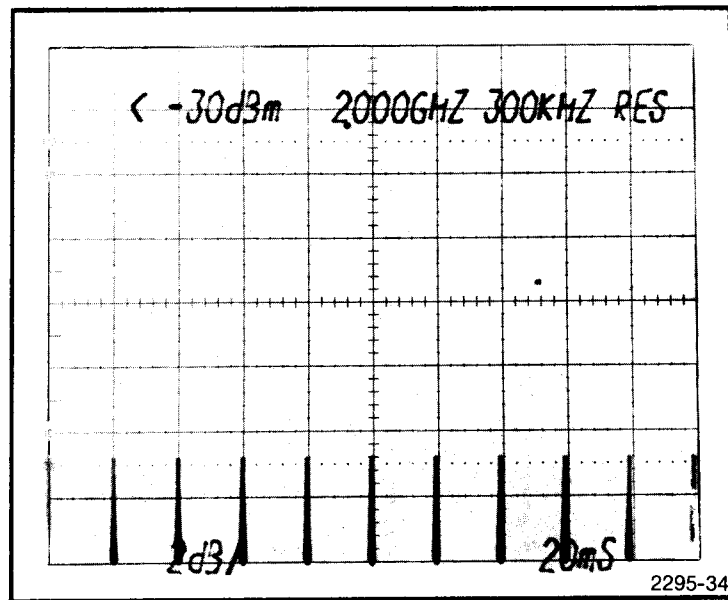

Fig. 4-26. Time Marks Displayed for Calibrating Sweep Timing.
j. Detune the center frequency so positive trigger pulses are displayed and adjust the REF VAR for a triggered display (see Fig. 4-26).